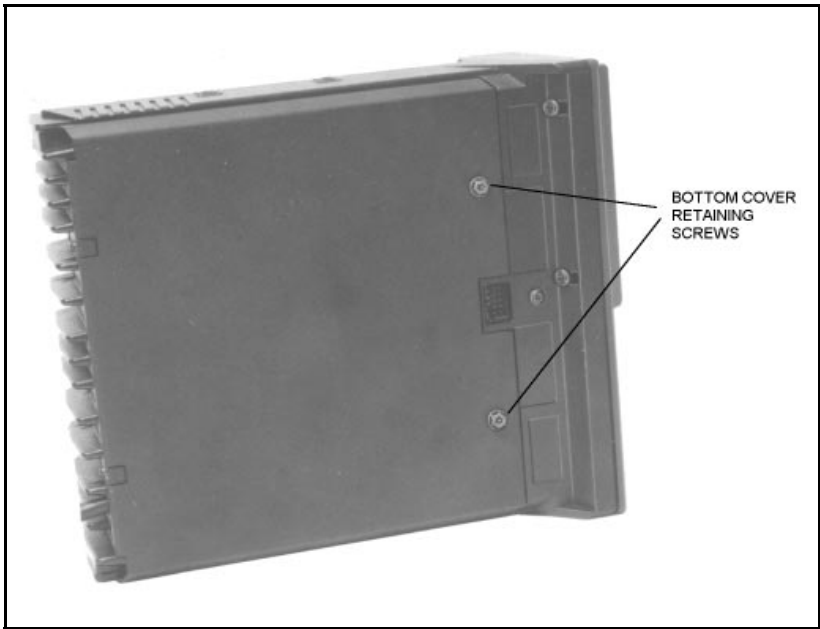

Figure 8 - Bottom View
1. Remove the bottom cover of the radio by removing the two bottom cover retaining screws. Refer to Figure 8.